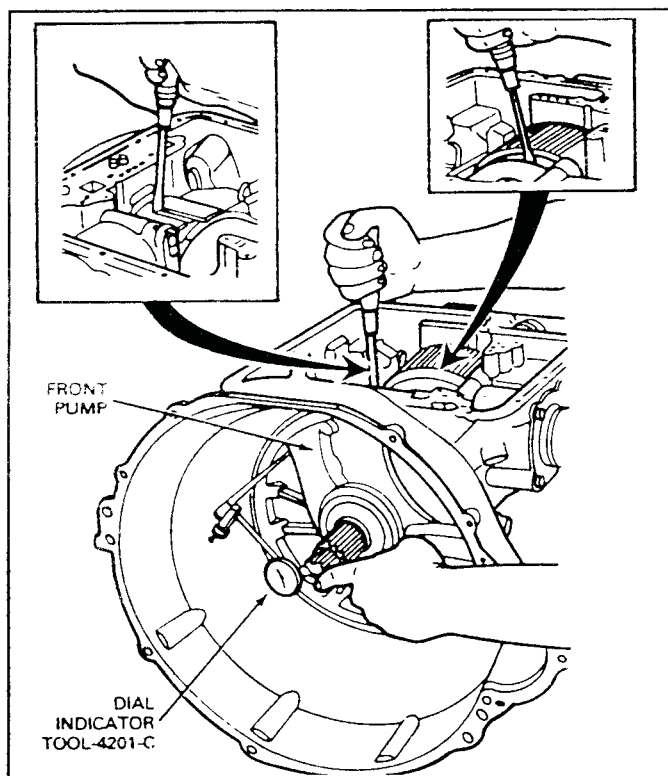

FIG. 18 Checking Gear Train End Play
4. Attach a dial indicator TOOL-4201-C or equivalent to the front pump as shown in Fig. 18. Install Extension Housing Seal Replacer T61L-7657-B in the extension housing to center the output shaft.
5. Pry the gear train to the rear of the case and at the same time, press the input shaft inward until it bottoms, (Fig. 18). Set the dial indicator to read zero.
6. Pry the gear train forward, (Fig. 18), and note the amount of gear train end play on the dial indicator. Record the end play to facilitate assembling the transmission. Remove the dial indicator from the pump and the tool from the extension housing.
25. Install Tool 4201-C or equivalent at the seventh pump mounting bolt (Fig. 18) and check the transmission end play as in steps 4, 5 and 6 of Disassembly. (See specifications at the end of this Section.) Remove the tool.